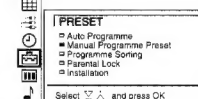

Fig. 6
- Select the symbol for »Preset« with  $\Delta$  or  $\nabla$  and press OK. The PRESET menu appears. (See Fig. 6.)